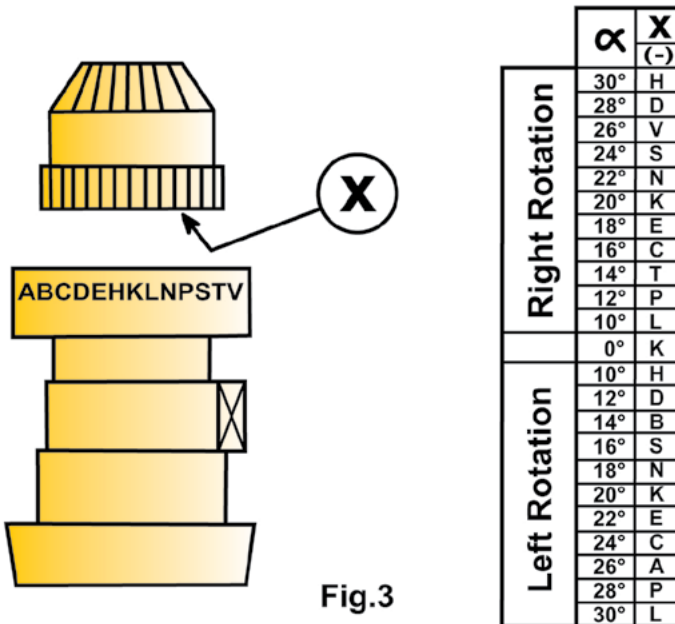

Fig.3
C) On the bottom of the central gear (6) there is a groove on the bottom of one of the teeth, this represents the “X” on the chart in figure 3. Place the tooth with the groove into the corresponding lettered gear on the hub (1).